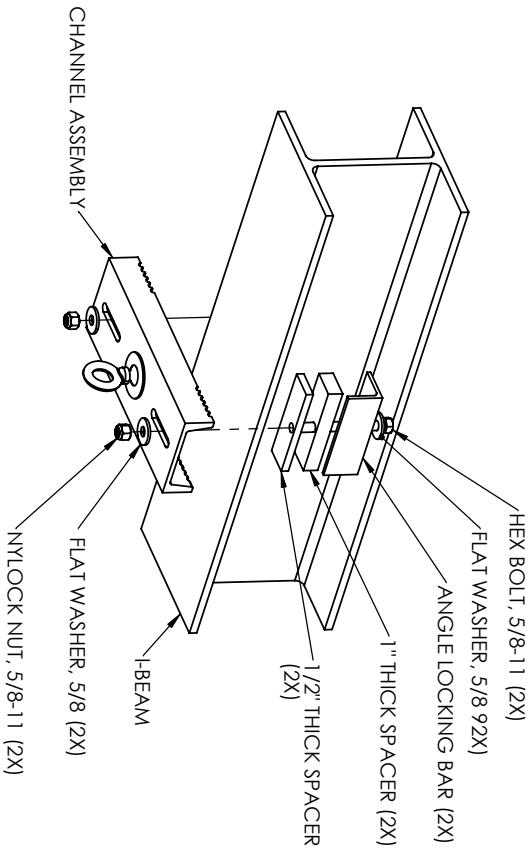

FIGURE 2 (SHOWN WITH 1" AND 1/2" THICK SPACERS)
- ATTACH THE SWIVEL BEAM CLAMP TO THE STRUCTURE I-BEAM'S FLANGE. PLACE THE APPROPRIATE NUMBER OF SPACERS (1", 1/2", 1/4" OR 1/8" THICK) IN BETWEEN THE ANGLE LOCKING BAR AND THE TOP OF THE I-BEAM TO ACCOMMODATE THE THICKNESS OF THE I-BEAM'S FLANGE. ASSEMBLE THE LOCKING ANGLE BAR, FLAT WASHER, SPACERS, AND NYLOCK NUT ONTO THE I-BEAM (FIGURE 2)..